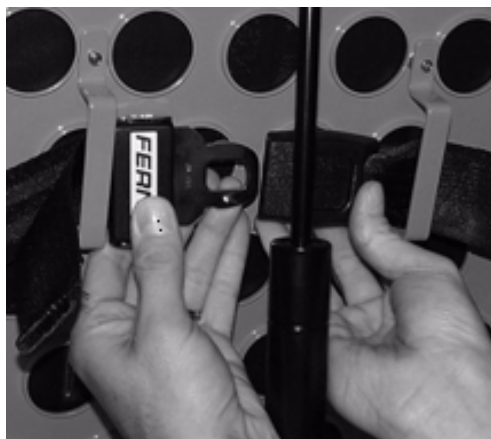

Figure 32
4. Wrap the straps around the backrest and insert the ends of the straps through the brackets. Securely fasten the buckle (see Figure 32).